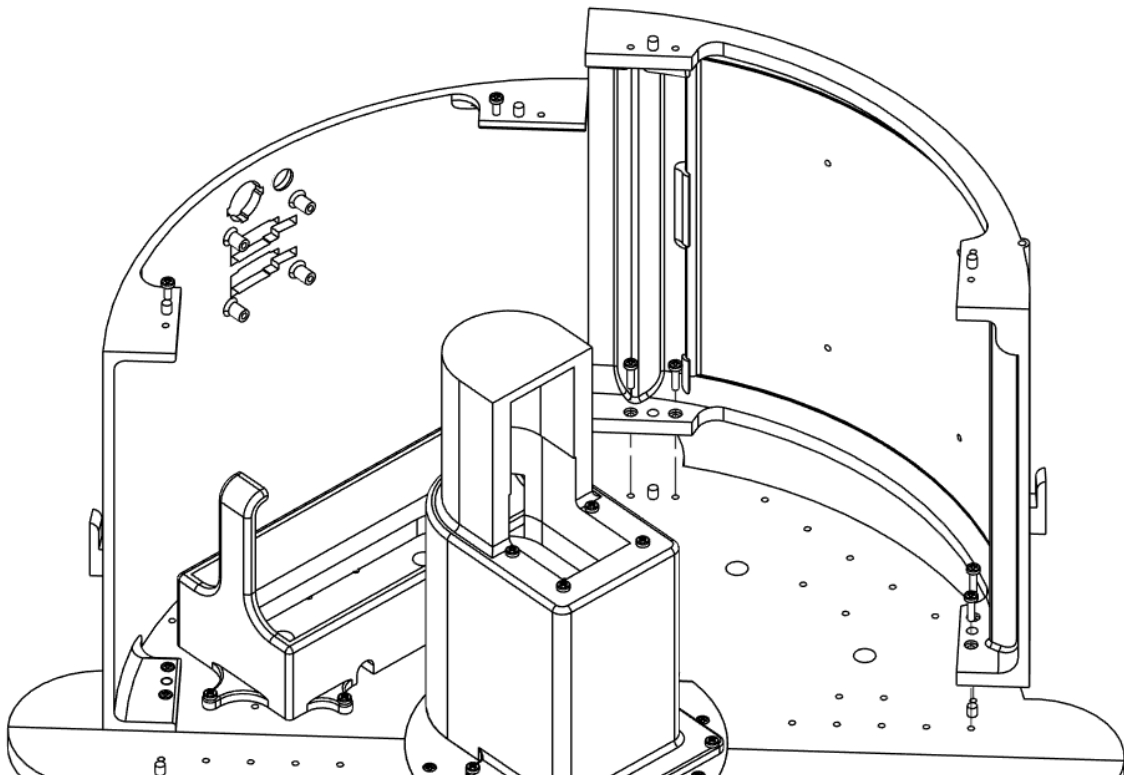
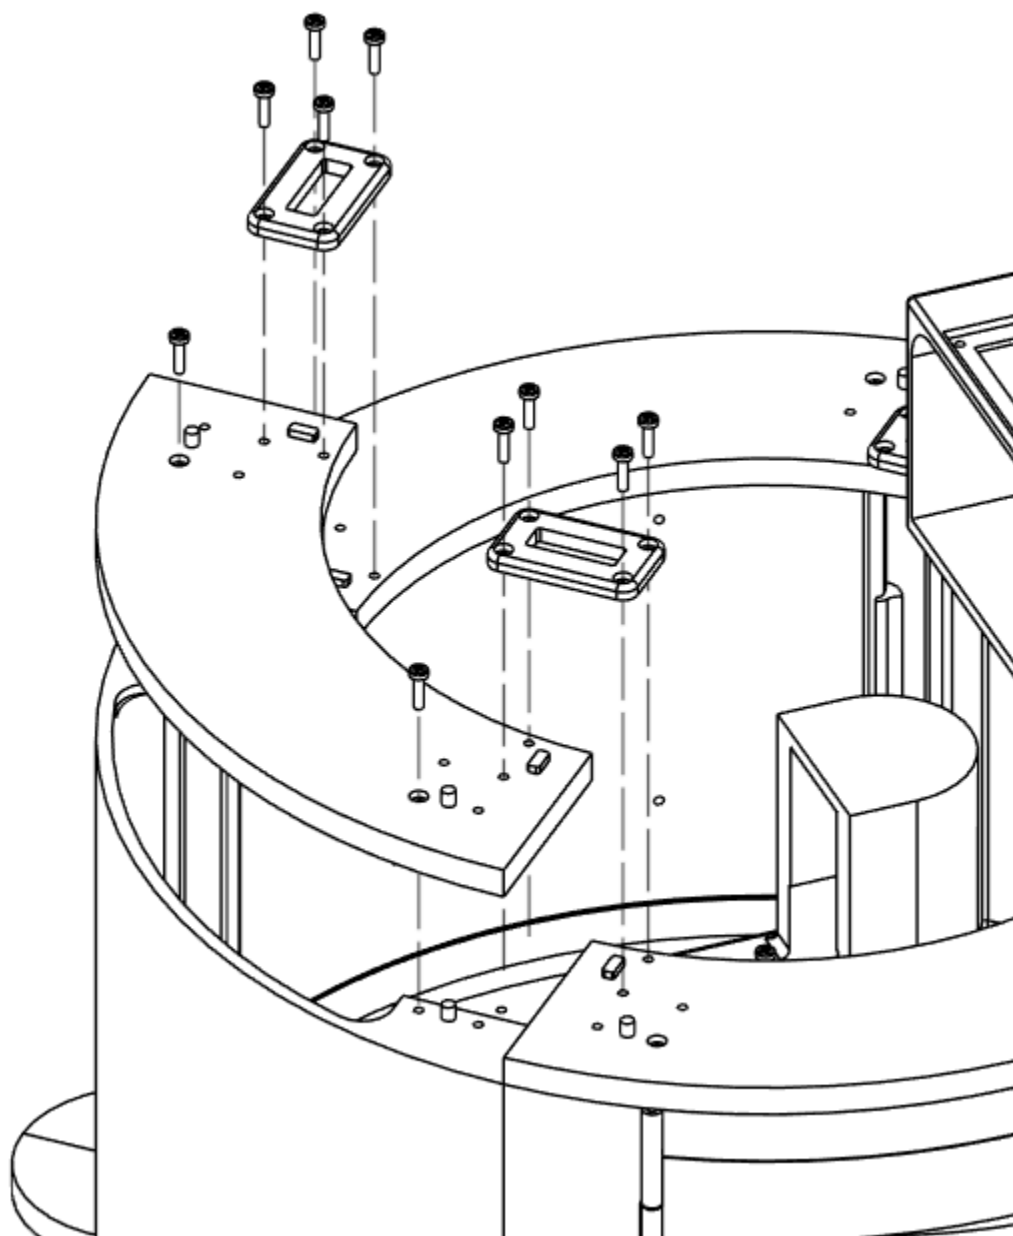
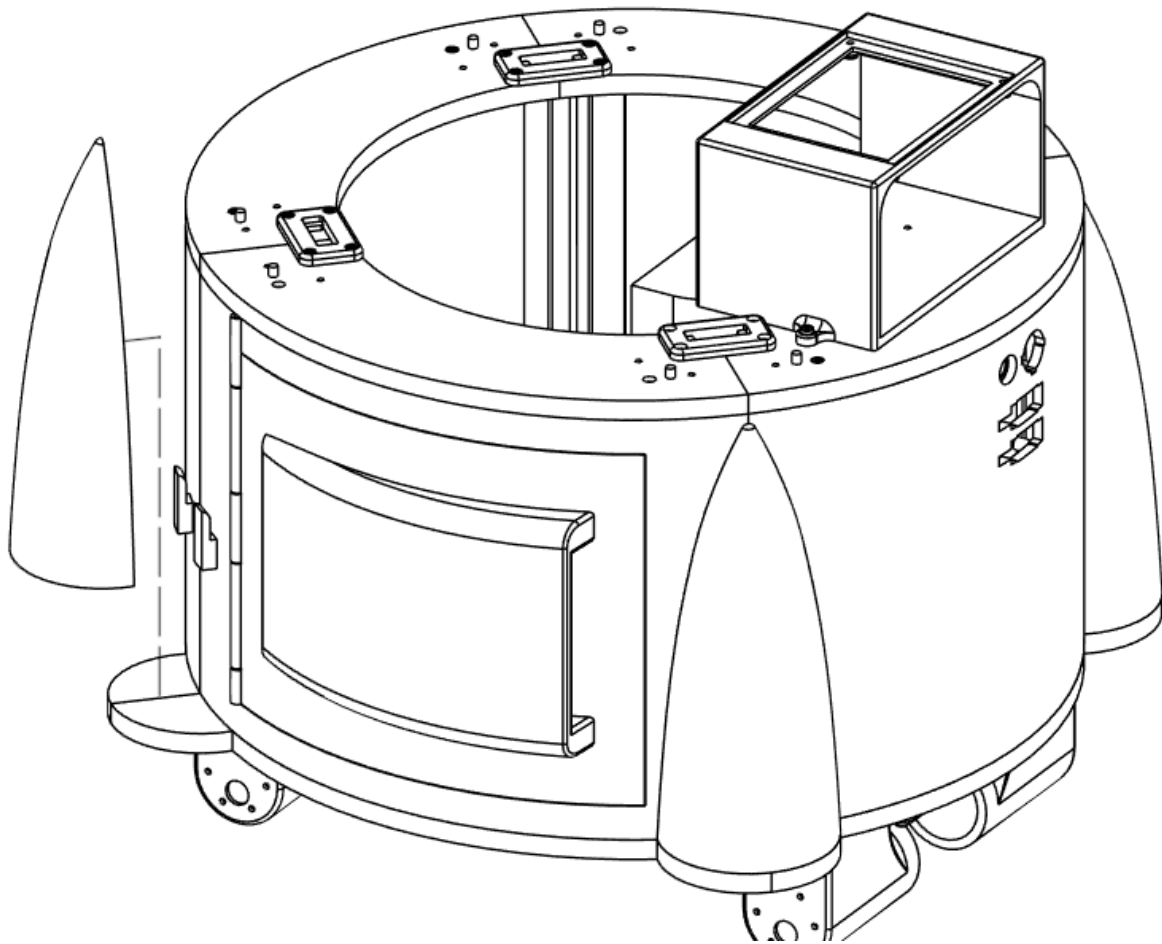

Figure 6.1 - 1st Level Wall Assembly
Figure 6.2 - 2nd Level Base Plates and Plate Connectors Assembly
Figure 6.3 - Side Flares Assembly
1. Fasten 1st level walls to Level 1 Base Plates as shown in Figure 6.1
- a. (12) M3x16mm
2. Fasten (3) Level 2 Base Plates to 1st level walls as shown in Figure 6.2
- a. (6) M3x12mm
3. Fasten (4) Plate Connectors to (4) 2nd Level Base Plates as shown in Figure 6.2
- a. (16) M3x12mm
4. Install (4) Side Flares to 1st level walls as shown in Figure 6.3